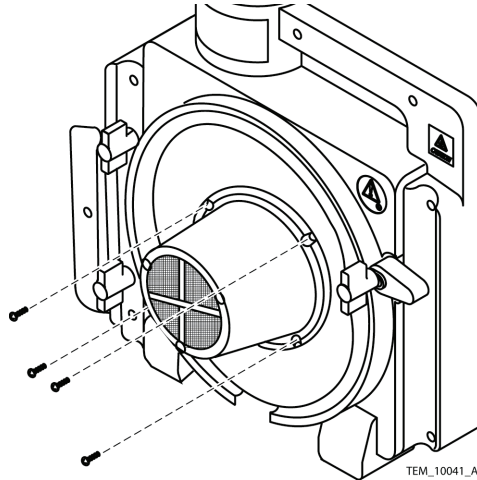

Figure 39. Blower Assembly Screws
3. Remove the screws holding the blower assembly to the rear cover assembly. See Figure 39.